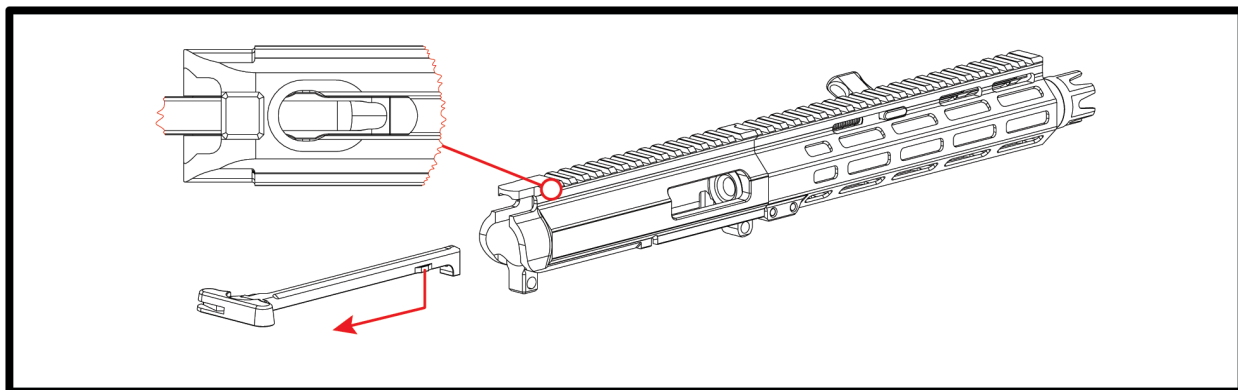

FIGURE 6.5 - Remove the standard rear charging handle
6. Remove the standard rear charging handle. (FIGURE 6.5)